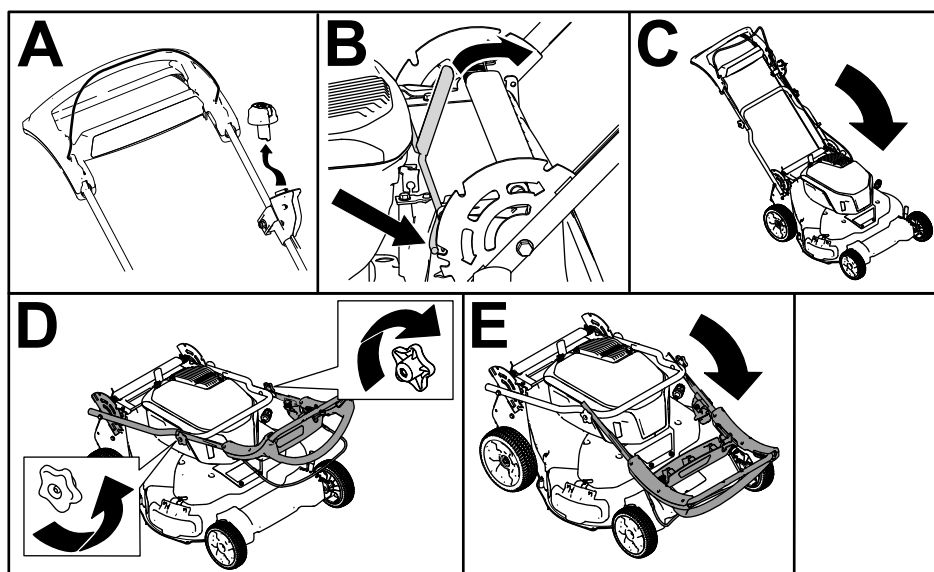

Figure 22
1. Remove the electric-start button (A of Figure 22).
2. Push the handle-lock lever rearward to disengage the handle-lock pins (B of Figure 22).
3. Lower the handle towards the front of the machine (C of Figure 22).
4. Loosen the handle knobs securing the upper handle (D of Figure 22).
5. Lower the upper handle (E of Figure 22).